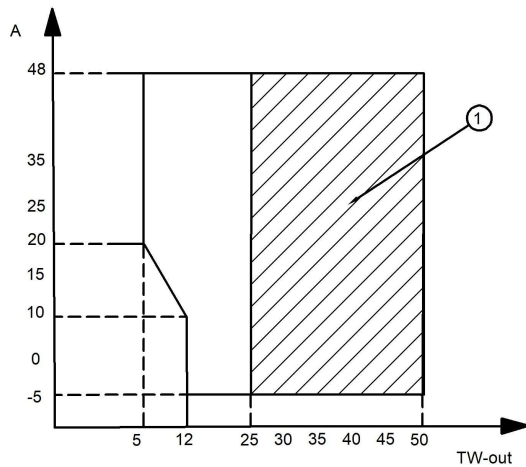

Figure 2-3
In cooling mode, the range of water flow temperature (TW _ out) at different outdoor temperatures (A) is shown in Figure 2-3 below: